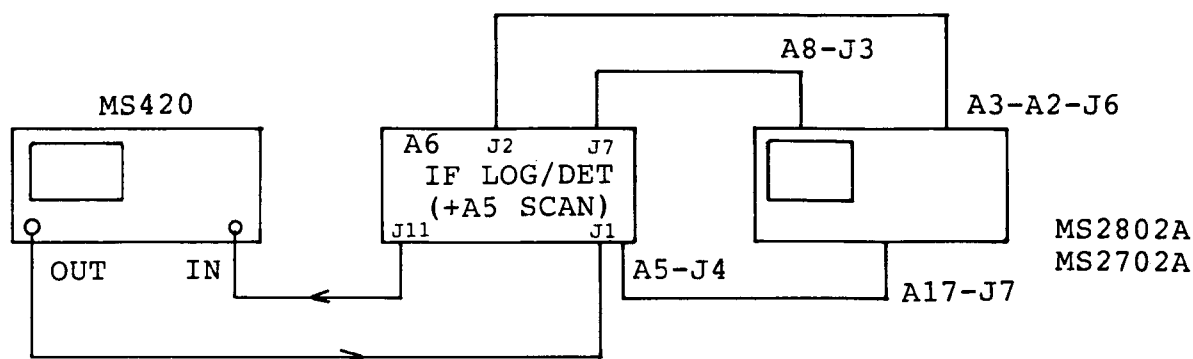

Fig. 3-74
- 2 Set-up as shown in Fig. 3-74.